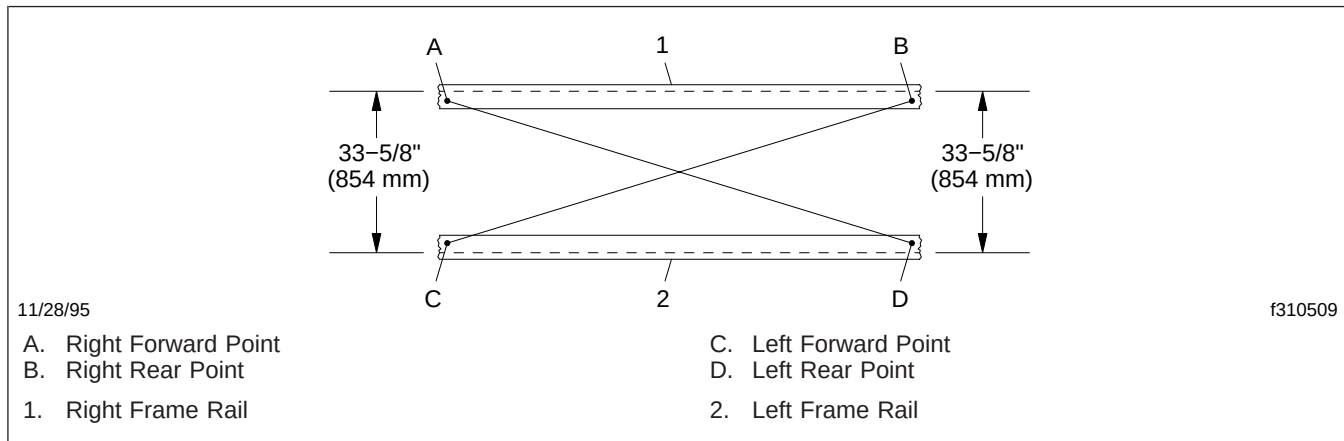

Fig. 1, Frame Rail Squaring
7. At the forward set of points, and again at the rear set of points, measure the distance across the frame, from the inside face of each frame rail web. At both locations, this distance must be 854 mm (33.62 inches) for standard frame rails, or 841 mm (33.11 inches) if an inner liner is present. See Fig. 1.
8. Measure the distance from the forward point on one frame rail to the rear point on the opposite frame rail. See Fig. 1. Then measure the distance from the other forward point to the rear point on its opposite frame rail.